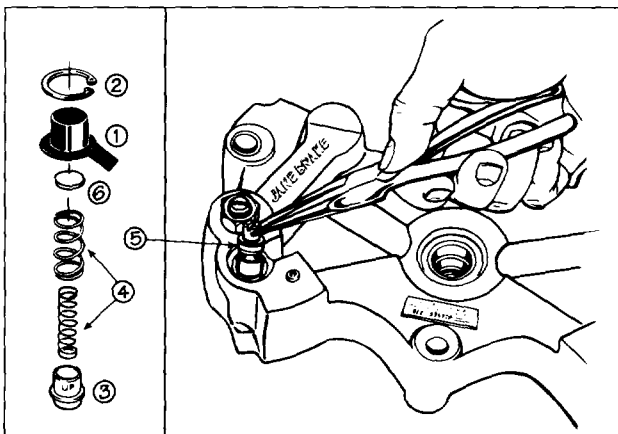

FIG. 4
2. Slowly remove the cover until spring pressure ceases, then remove the two control valve springs (see 4, Fig. 4), insert (6) and collar (3).
3. Using needle-nose pliers, reach into the bore and grasp the stem of the control valve (5). Remove the control valve.